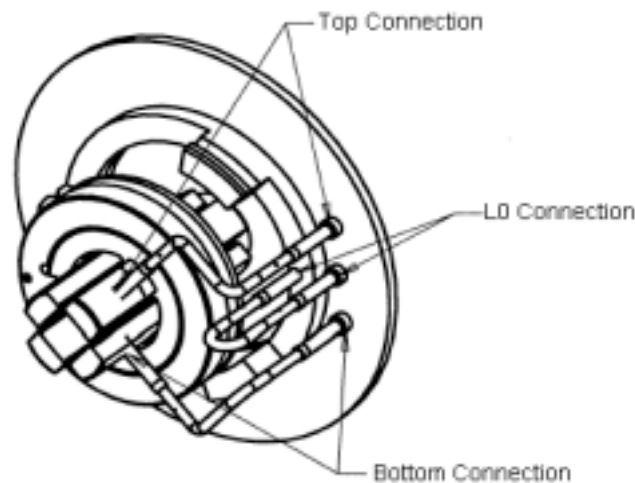

Figure 4-11. Q00 quadrupole and lens L0 wiring
1. Carefully remove the leads from the lead pins on the Q00 quadrupole and lens L0. See Figure 4-11.
3. Carefully reconnect the leads to the lead pins on the Q00 quadrupole and lens L0 as shown in Figure 4-11.